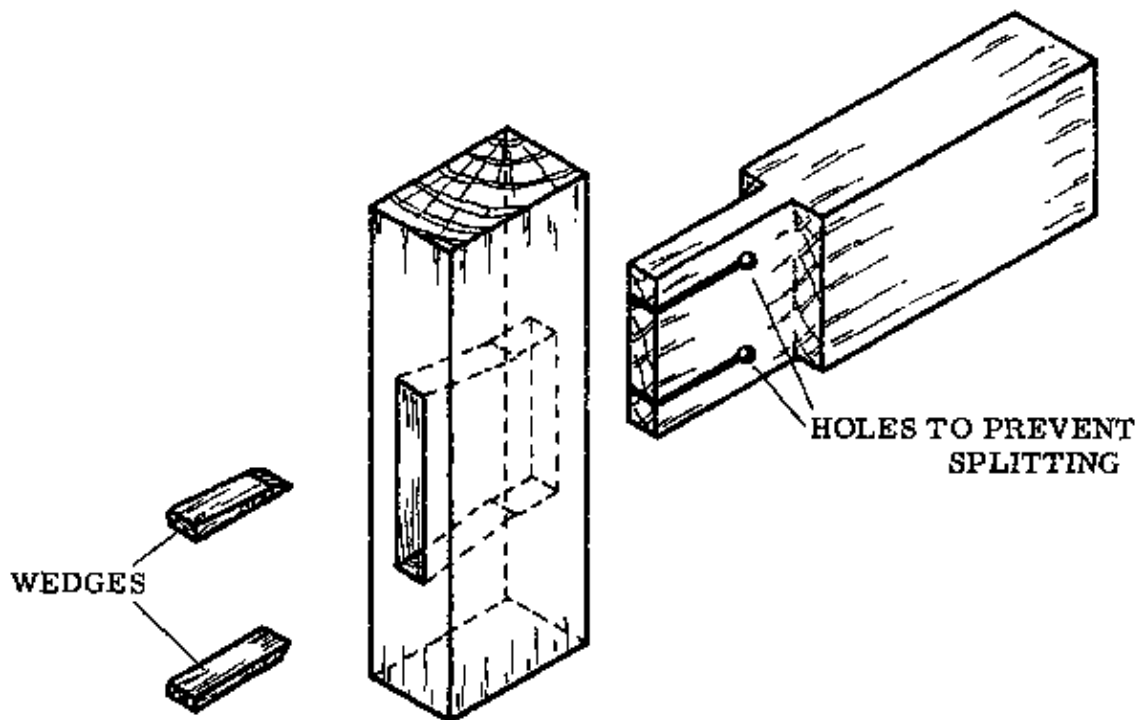

Fig. 2
– Cut the mortice with an allowance of 2 mm in width, tapering from the outside edge to about 2/3rd of its depth (Fig. 2).